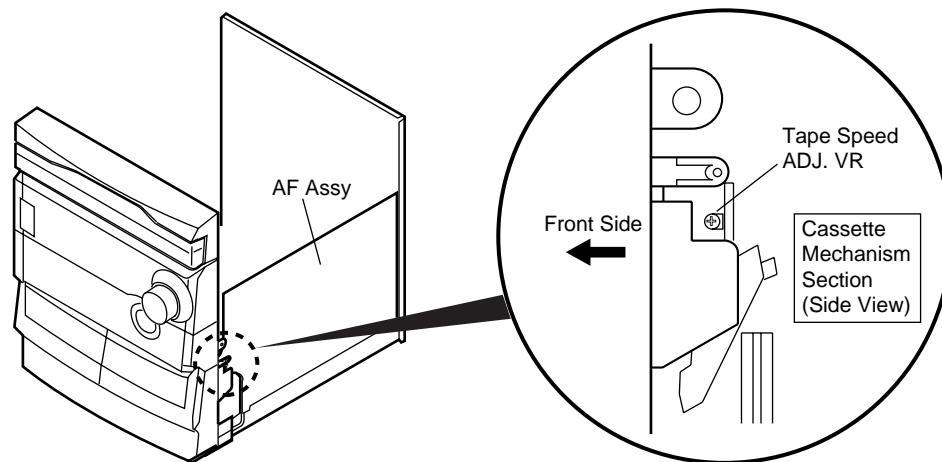
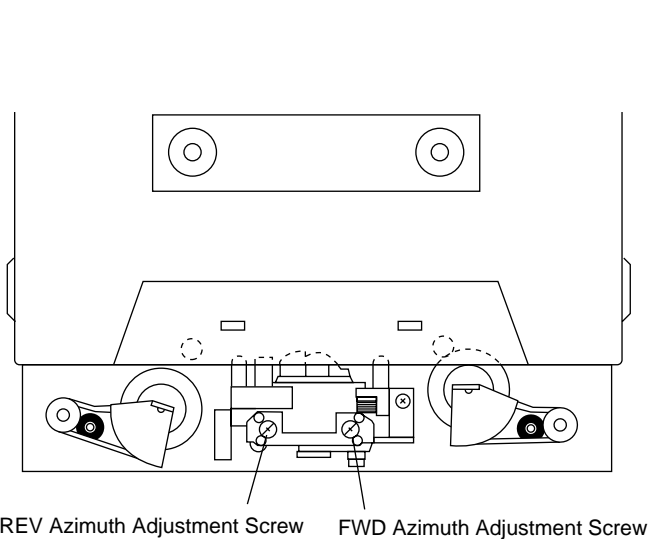
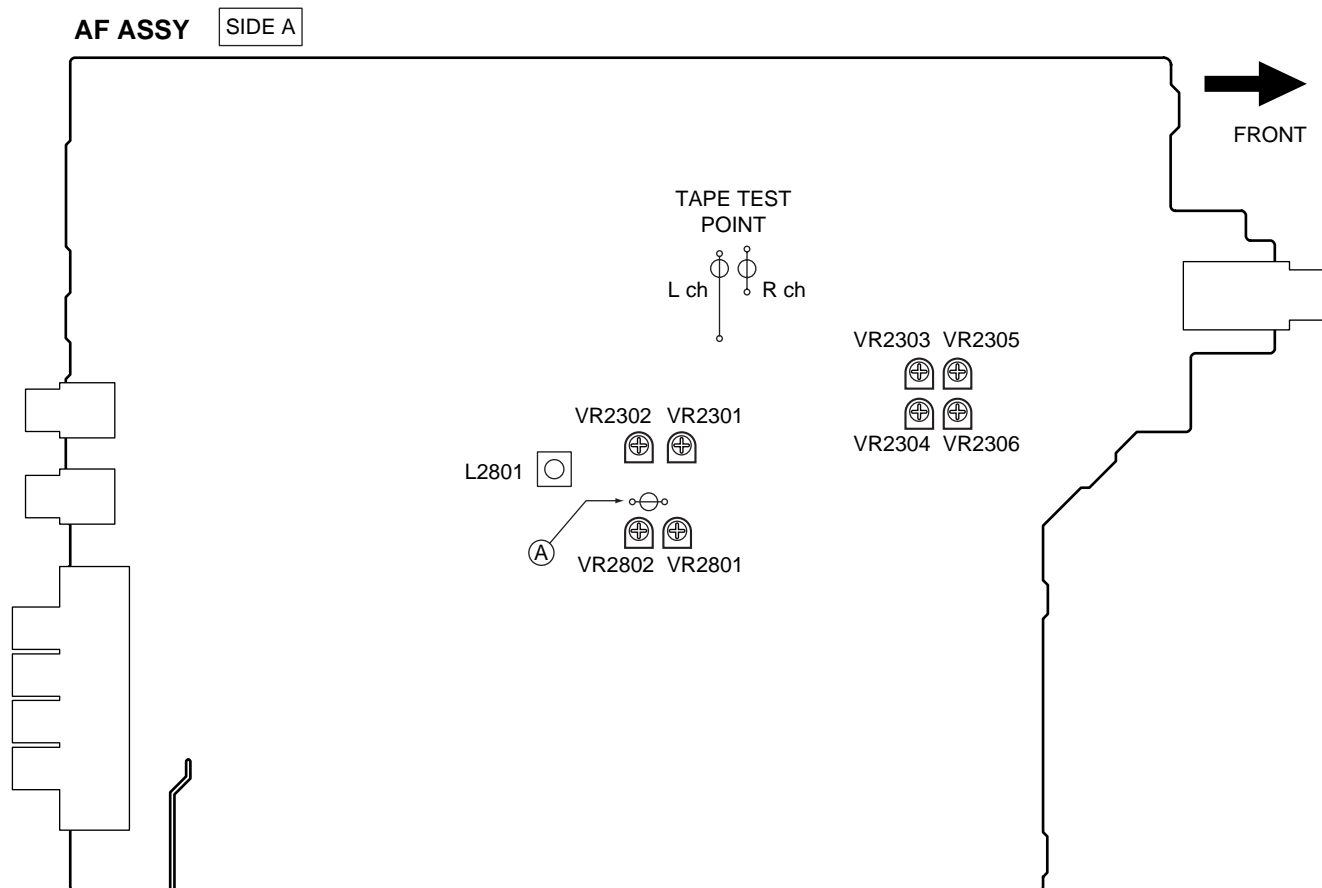

Fig.3 Tape Speed ADJ. Point
Fig. 5 Head Azimuth Adjustment Screw
Fig.7 Adjustment and Measurement Points
• Adjustment points and test points are shown in Fig.3, Fig.5 and Fig.7.